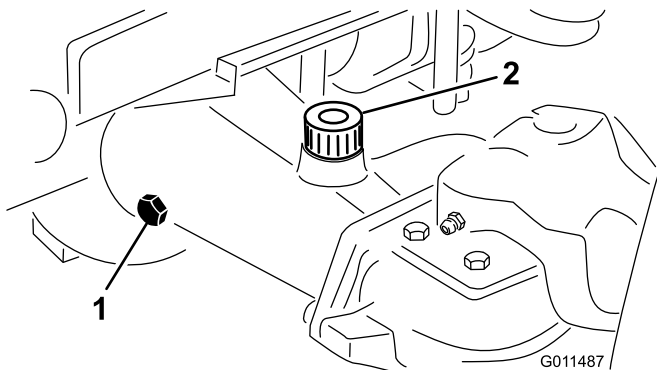

Figure 60
- Remove a check plug from one end of the axle and ensure that the lubricant is up to the bottom of the hole (Figure 60).